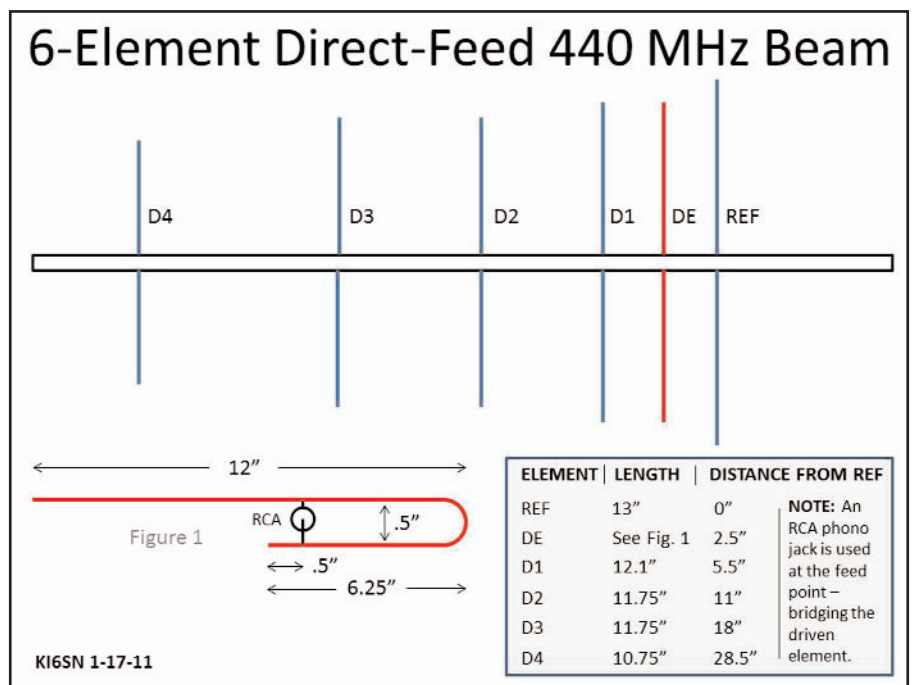

Figure 1.
To get started, cut one coat hanger to length for the reflector (REF) and others for each director (D1-4). You'll need about a 20-inch length for the driven element (DE), which will take a fancy turn, as you can see in Figure 1 in the illustration. To get the proper length, the *raw* coat hanger will need to be unbent.
With everything clean and shiny, set REF and D1-4 aside, for the moment. Grab the 20-inch-long piece prepared for DE and refer to Figure 1 in the illustration. It shows a two-sided element with a half-inch bend at the 12-inch point of the top side.
A half-inch diameter metal rod was used as a “former” at KI6SN to provide the hairpin bend in the driven element, as illustrated in Figure 1.